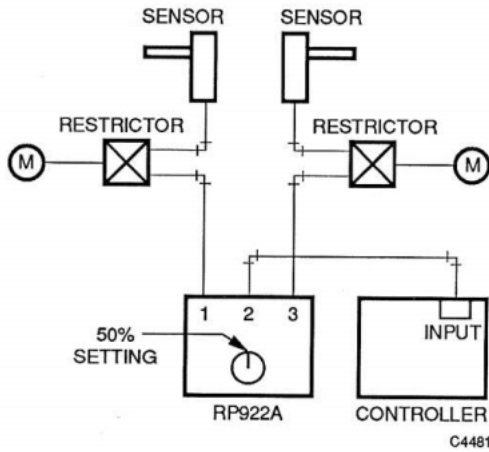

Fig. 19. RP922A Typical Averaging-Ratio Relay Application.
- A typical application uses the RP922A to provide averaging-ratio pressure output (Fig. 19 and Table 2). Ports 1 and 3 connect to pressure signals and Port 2 connects to a controller input port. Port 2 is a functional output of Ports 1 and 3.